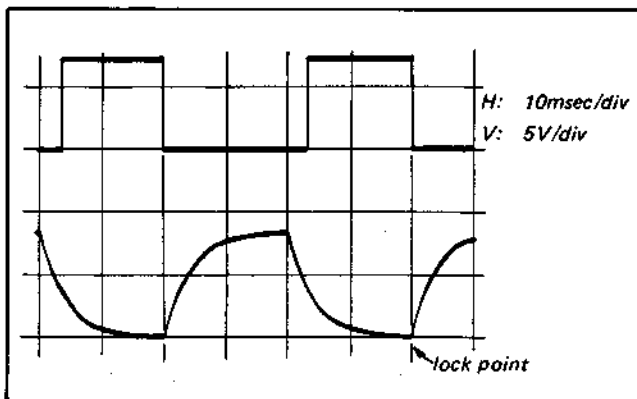

Fig. 4-3-1. Drum free speed adjustment
- (1) Set up the REC mode.
- (2) Connect the oscilloscope as follows.
- (3) Confirm that the waveform locks as shown in Fig. 4-3-1.